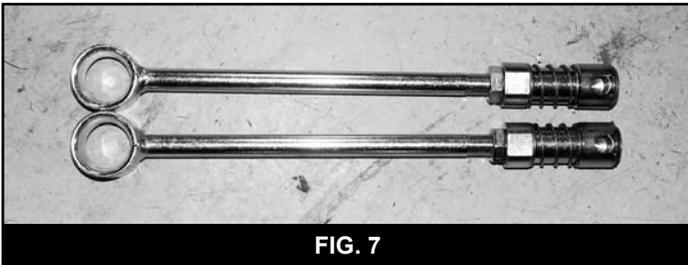

FIG. 7
39. Install the provided 1/2" jam nut then the spring loaded disconnect assembly on the threaded end of the new link. Thread the nut and assembly all the way on to the link (Fig 7).